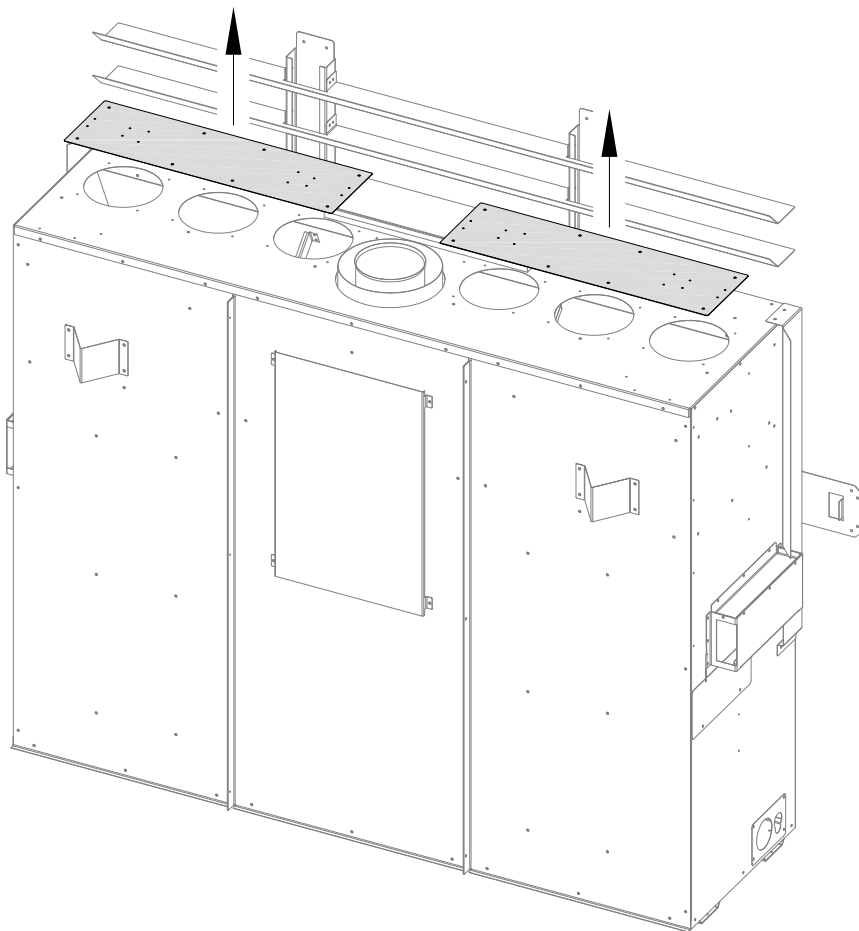
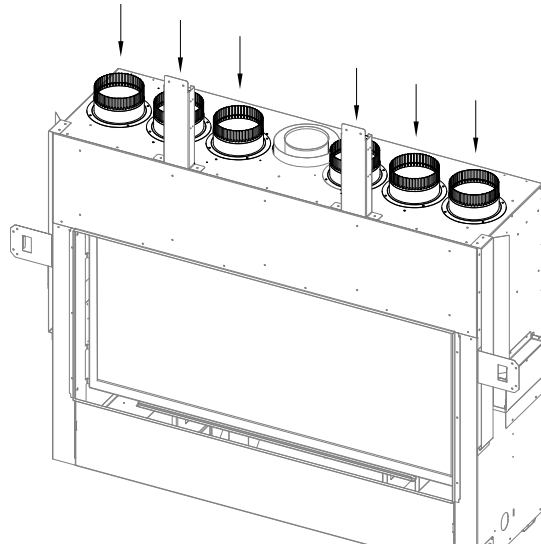
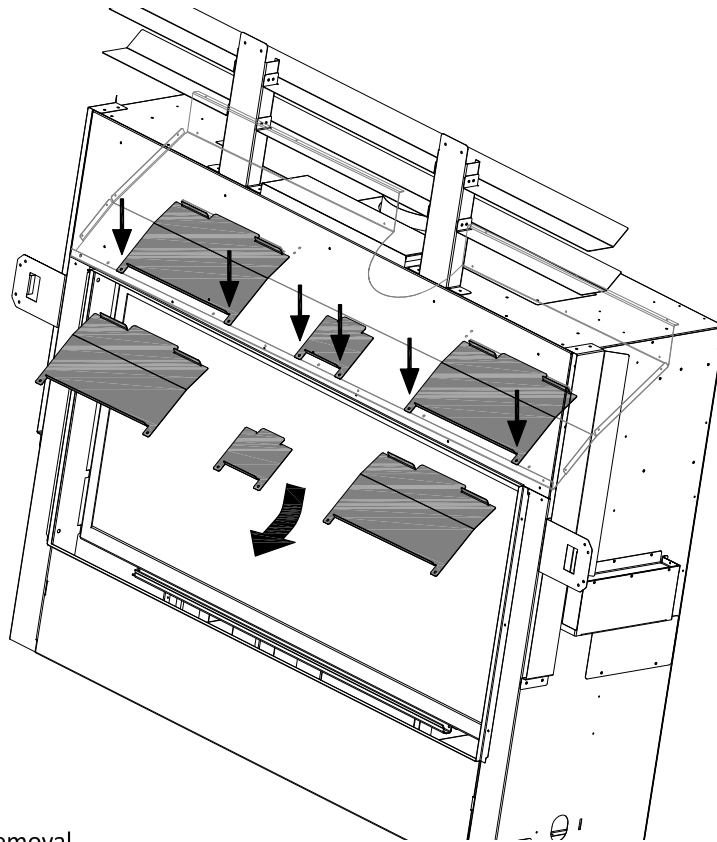

Figure 4.1 - Cover Plate Removal
Figure 4.2 - KZK Collar Installation
Figure 4.3 - Convection Baffle Removal
- The appliance cover plates and convection baffles must be removed for Komfort Zone Kit installations, as shown in Figure 4.1 & Figure 4.3. KZK collars must be installed—See Figure 4.2.
1. Remove the (16) sheet metal screws that secure the (2) cover plates at the top of the fireplace shown in Figure 4.1. Discard these two cover plates. Save the sheet metal screws for the next step.
2. Install the KZK collars that were provided with KZK-062 as shown in Figure 4.2. Reuse the sheet metal screws from the previous step.
3. Locate the (3) convection baffles as shown in Figure 4.3. There are (2) screws that secure each convection baffle. Remove the screws and convection baffles from the fireplace. Discard the screws and convection baffles.